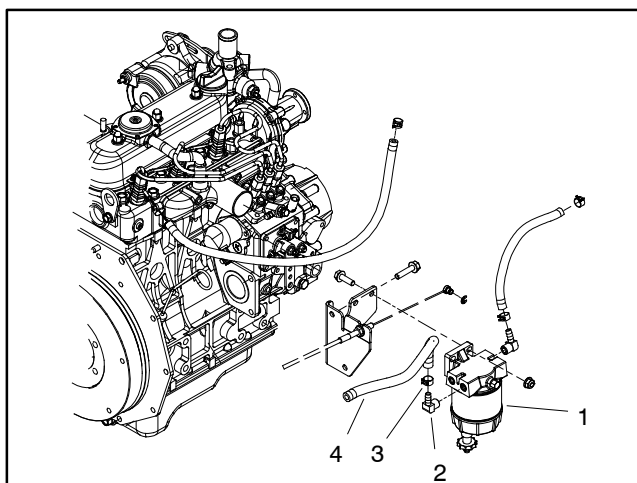

Figure 39
3. Disconnect fuel hose (pump discharge) from the inlet fitting on the fuel/water separator (Fig. 39).